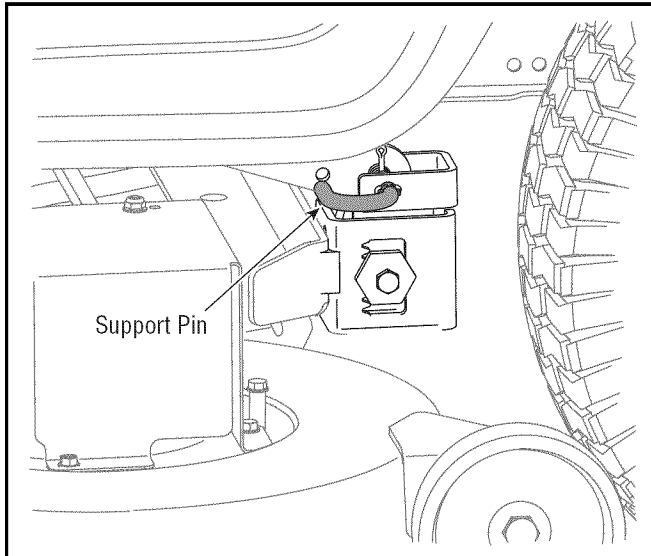

Figure 26
7. Pull the deck support pin outward to release the deck from the deck lift arm. See Figure 26.